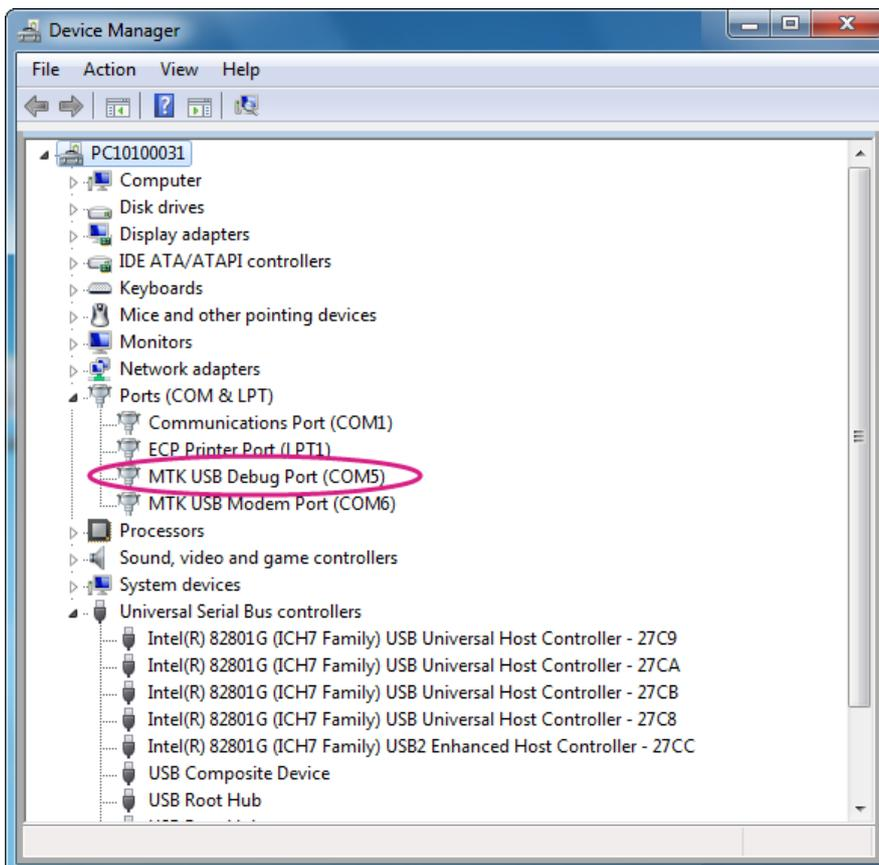

Figure 9 LinkIt ONE development board listed in Device Manager
- 4) In Device Manager, navigate to **Ports (COM & LPT)** (see Figure 9).
- 6) A new COM device should appear under **Ports (COM & LPT)** in Device Manager, as shown in Figure 9. Note the **COMx** port number of the **MTK USB Debug Port**, this information is needed to complete configuration of Arduino IDE.